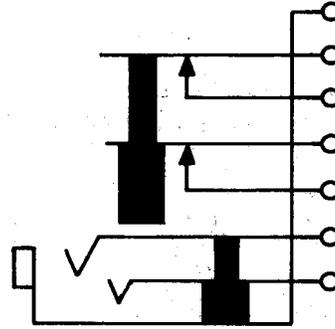

Fig. 11—293A or AM Jack
2.11 **293A and AM:** These single-mounted jacks (Fig. 11) are used with 150, 213, and 310 plugs.